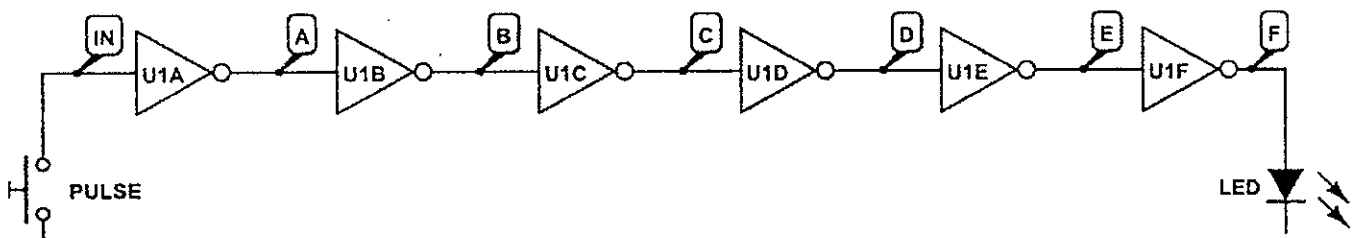

Figure 1 - Test Circuit
2. Wire the test circuit depicted in Figure 1 on the IDL-800 Digital Lab.